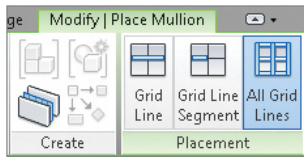

FIGURE 2.22 Selecting the Mullion tool's All Grid Lines option
1. Select the Mullion tool from the Build panel. You're given three different options to place the mullions: continuously along a grid line, on a segment of a grid line, or on all empty grids including the boundary. Select the third option (Figure 2.22).